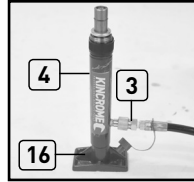

Fig.3
4. Fit the flat base plate (16) male connector (17) and desired Extension tubes (5-8) with the hydraulic Ram (4) (Fig.3).